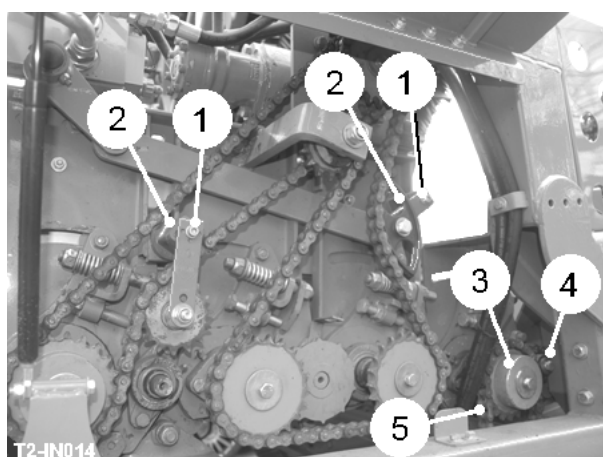

Fig 17
Drive chain tension can be set by releasing the bolt (item 1, fig 17), rotating the tensioner mounting (item 2, fig 17).
The Omega transfer unit feeds the crop onto the spreader webs or transfer web (depending on machine specification). The unit consists of one row of polyurethane scrolls (item 3, fig 17) and one steel clod roller (item 4, fig 17). The speed of the unit is set from the service terminal. The clod roller height should be set to give the best feed onto the following web. The drive chain (item 5, fig 17) is adjusted by releasing the motor mounting bolts and rotating the motor in the mounting slot.